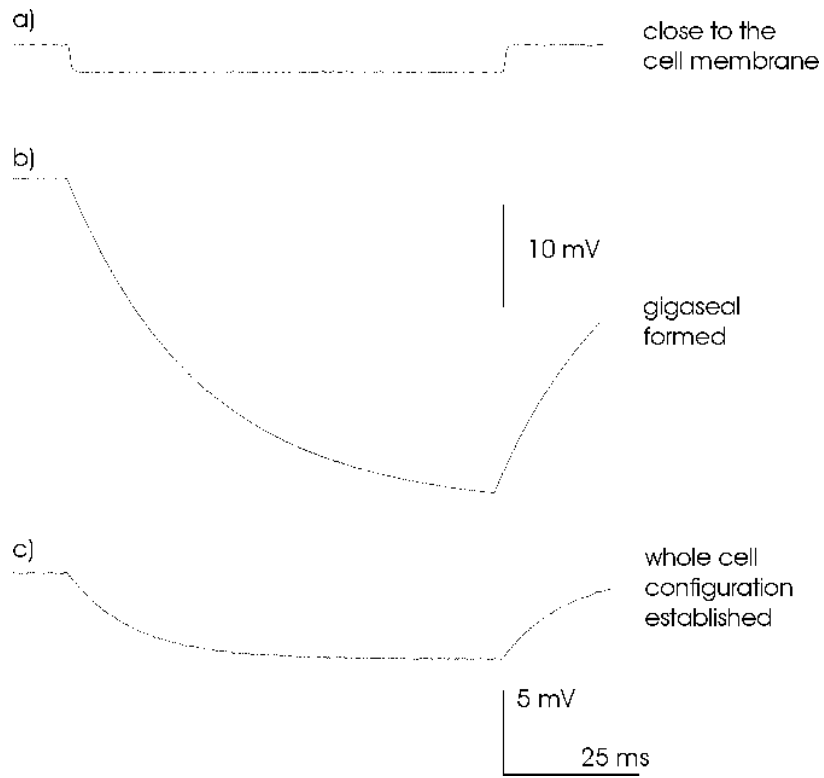

Figure 15: Approaching the cell, forming a gigaseal and establishing the whole cell configuration
- o Approach the cell until the voltage signal changes (**a**, Figure 15). Often you can observe a slight dent in the cell membrane.
- o If the seal does not form apply gentle suction to the pipette until a gigaseal is established (**b**, Figure 15).
- o Apply stronger suction to the pipette or use the BUZZ unit to break the cell membrane under the pipette and establish the whole cell configuration. The whole cell configuration is established if you see the voltage signal getting smaller again (**c**, Figure 15) and you read the expected membrane potential.